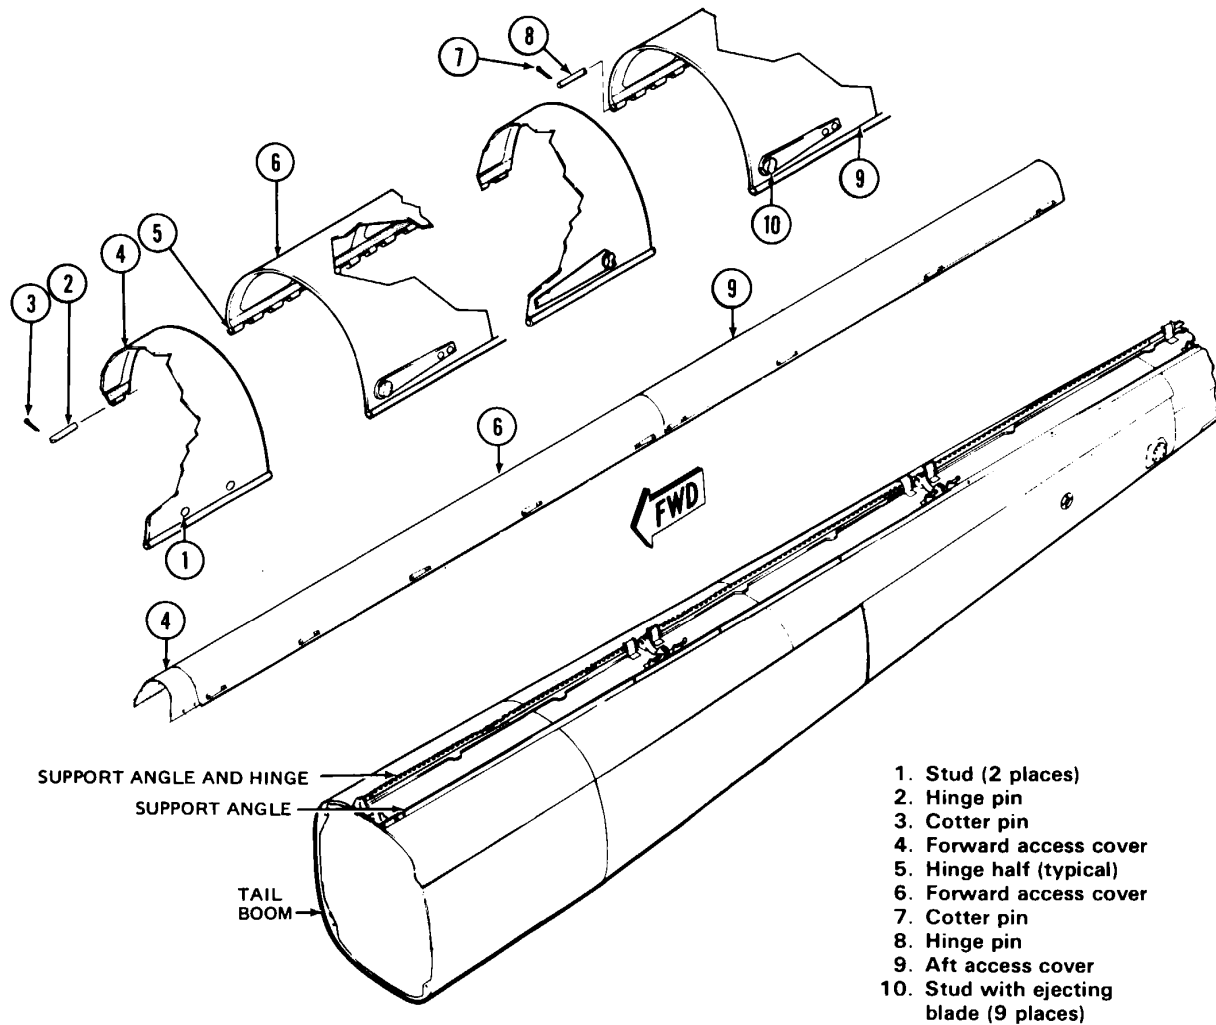

Figure 52-10. Tailboom Driveshaft Access Covers
52.6.1.1 Loosen stud (1, Figure 52-10) in two places. Hinge open cover (4).
52.6.2.1 Inspect covers (4, 6, and 9 Figure 52-10) for missing, damaged, or loose studs.
52.6.4.1 Install aft cover (9, Figure 52-10) with hinge pin (8) and secure with cotter pin (7).